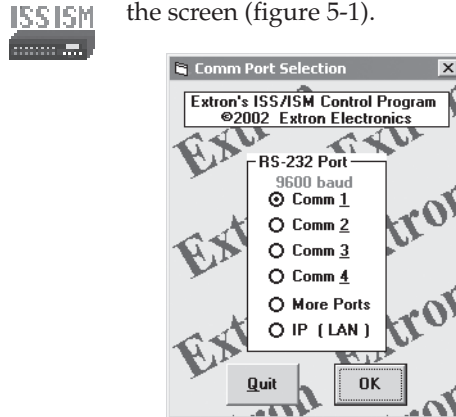

Figure 5-1 — Comm port selection window
1. To run the control program, double-click the ISS/ISM Control Pgm icon in the Extron Electronics group or folder. The Comm menu appears on the screen (figure 5-1).